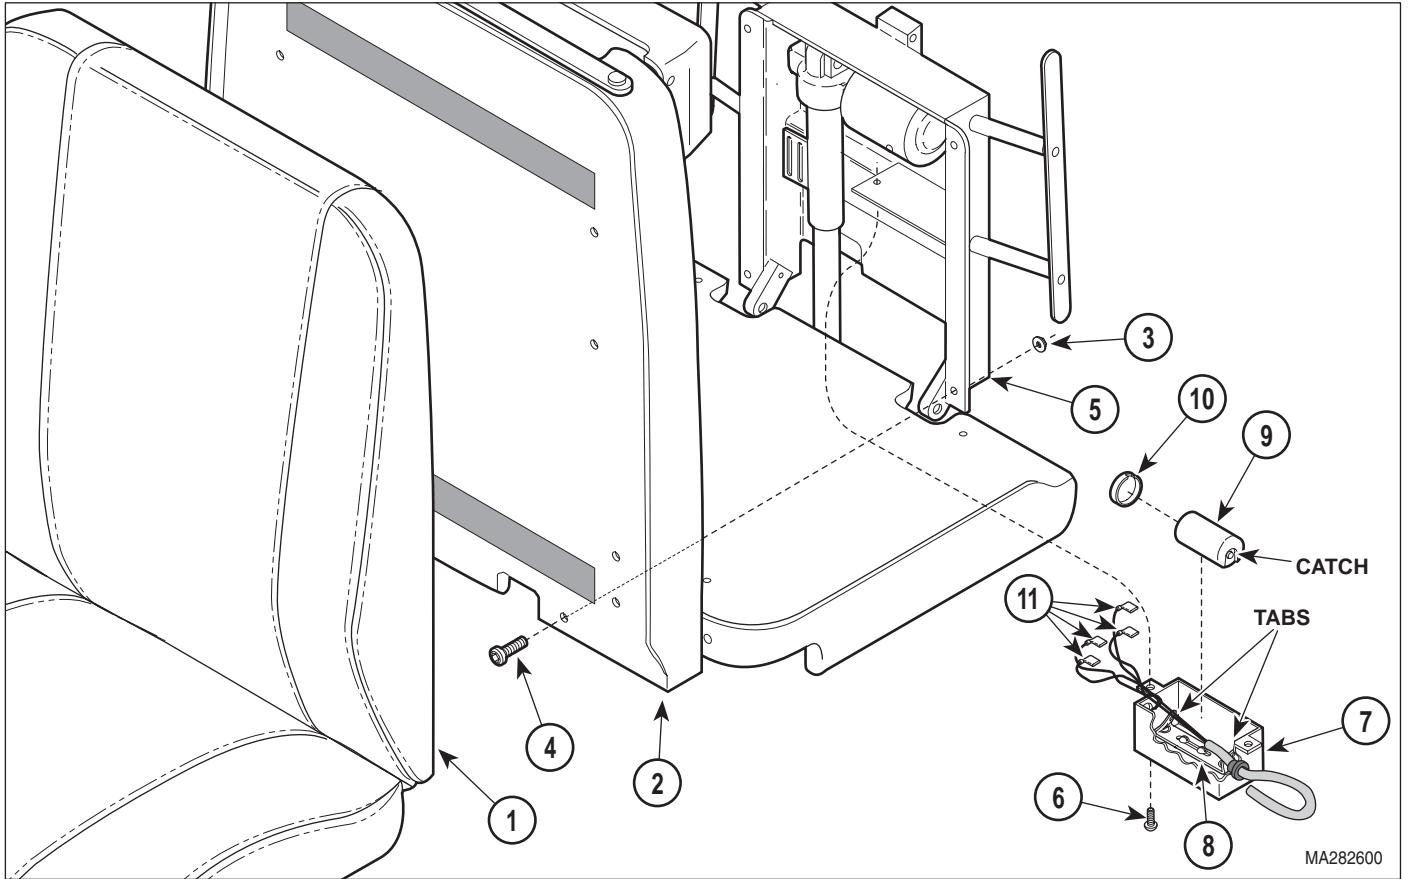

Figure 4-8. Back Capacitor Removal / Installation
- (1) Unplug table power cord from wall outlet.
- (2) Remove upholstered back (1, Figure 4-8) from back board (2).
- (3) Remove four nuts (3), screws (4), and back board (2) from back weldment (5).
- (4) Remove two screws (6) and back capacitor cover (7) from back weldment (5).
- (5) Using screwdriver, pry tab of capacitor mounting bracket (8) outward; then remove back capacitor (9) from capacitor mounting bracket.